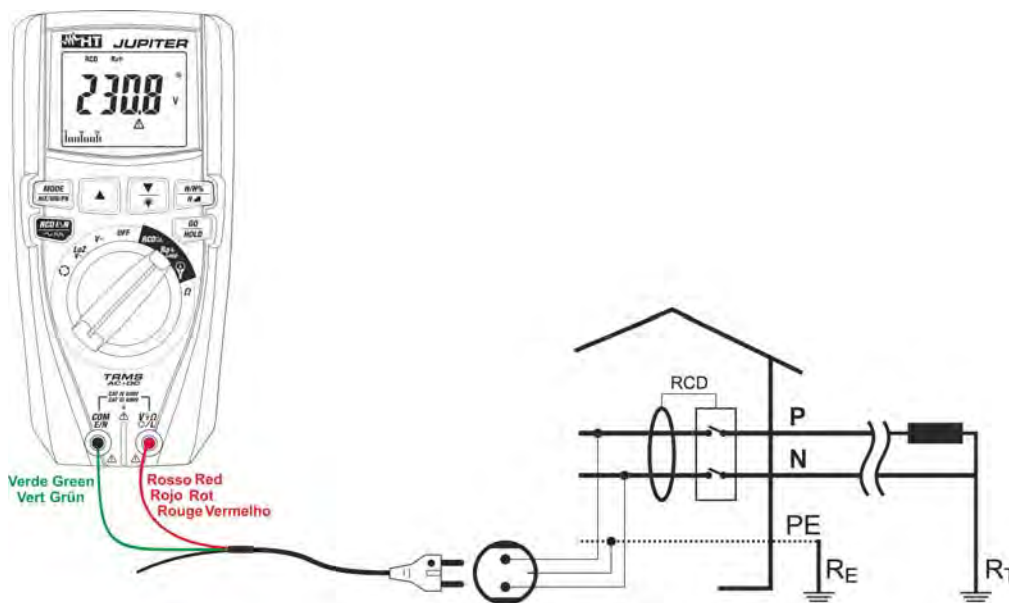

Fig. 17: Use of the instrument for measuring overall earth resistance with Schuko cable.
5. In case the cable with Shuko plug is used, insert the red conductor into input terminal **V $\Omega$ L** and the green conductor into input terminal **COM/E/N** and connect the instrument to the system to be tested (see Fig. 17). The value of voltage Phase-Earth is shown on the display